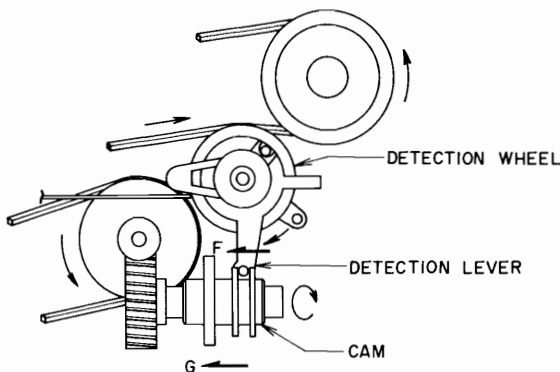

Fig. 5
- 1) Because the detection wheel is turning clockwise as indicated in Fig. 5, friction between the detection wheel and the detection lever causes constant pressure to be exerted on the detection lever in the direction of the arrow F, while the direction lever exerts force F on the cam in the direction of the arrow G.
- 3) Fig. 6(b) illustrates the motion of the pawl mounted on the cam with the plunger viewed from above. Since force is applied to the pawl in the direction of G as indicated in Fig. 5, the pawl rotates on the left hand of the plunger, in order of A, B and C.
- 4) When the tape transport stops, the detection wheel driven by the counter belt stops rotating and the force in the direction of the arrow G which was exerted on the cam as shown in Fig. 5 ceases.